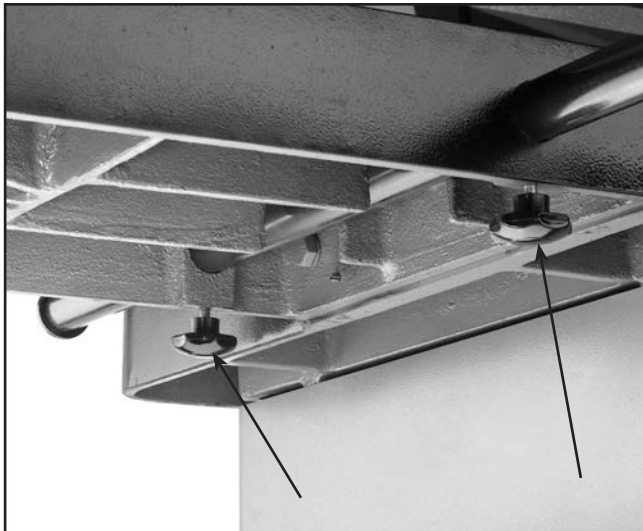

Figure 27. Table extension knobs.
1. Loosen the star knobs (shown in **Figure 27**) located on the underside of both sides of the shaper.
3. Tighten the star knobs shown in **Figure 27**.